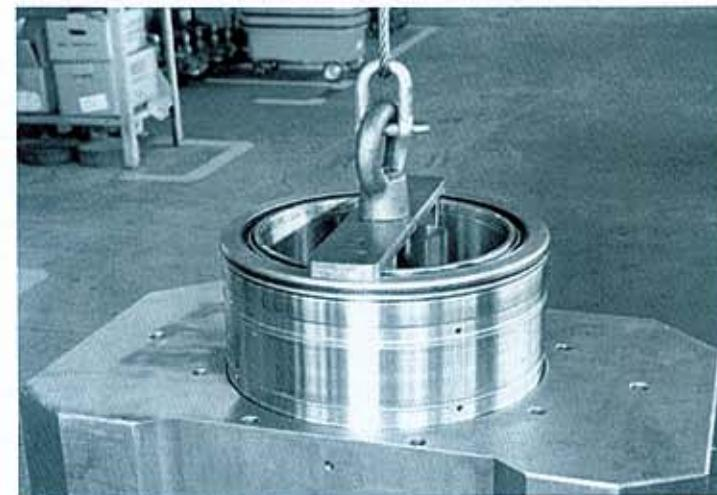

Fig. 3.19
- (1) Place the chock on a flat surface so that the chock bore center line is vertical. Clean the bore and apply a thin coat of grease.
- (2) Mark the maximum load position on the chock end face.
- (3) Use the appropriate lifting tool as shown in Figs. 3.19 and 3.20 when taking the bearing out of the wooden box, or handling the inner ring properly, as well as when assembling the bearing to the chock.
- (4) Before assembly, confirm that the oil seal and O-ring are free from abnormality.
- (5) During assembly, tap the bearing lightly with a brass rod to correct its position if it has become cocked. Note in this case that the bearing end surface must not be hit directly. Apply a patch plate or tap the top of the lifting tool lid.
- (6) Change the load position number of the bearing each time the bearing is reassembled after disassembly and cleaning. The load position changes will contribute to a longer life.